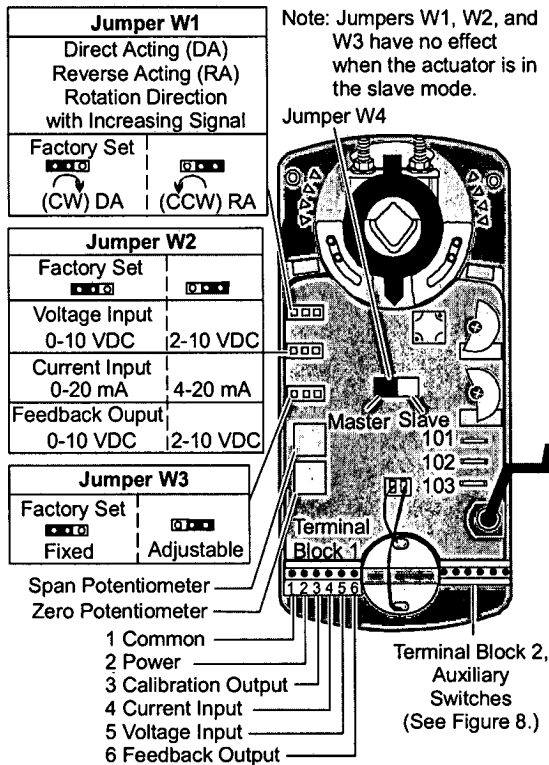

Figure 13: Settings for -ZS and -ZS-S Models
The -ZS and -ZS-S models are factory set with Jumper W4 in the "master" position. Designate this unit as the master actuator. Refer to Figure 13, and proceed as follows:
-ZS, -ZS-S, E2, and E2-S models are factory set with Jumper W1 in the DA position. Move Jumper W1 to the RA position. (See Figure 13.) Apply power and a control signal to the actuator to verify proper operation. (See Table 2.)
The B2 and B2-S models have a Light Emitting Diode (LED) indicator shown in Figure 13. When the actuator is driving to position, the LED flashes five times every second. When the unit is auto calibrating, the LED flashes ten times every second. When the unit is idle, the LED flashes once every 2-1/2 seconds.
-ZS and -ZS-S models are factory set with Jumper W1 in the DA position, Jumper W2 in the 0 to 10 VDC or 0 to 20 mA position, and Jumper W3 in the fixed position. (See Figure 13.) E2 and E2-S models are factory set for Direct Acting (DA) with Jumper W1 in the DA position.
1. Verify that Jumper W2 is in the 0 to 10 VDC position, and Jumper W3 is in the ADJ position. (See Figure 13.)